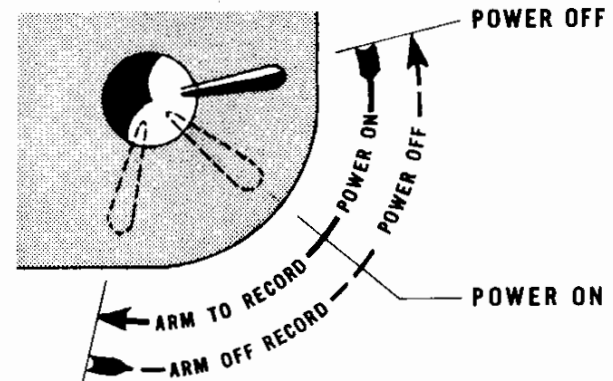

Figure 2 - Phonograph Power Switch
5. Turn the record player control knob (figure 2) until a "click" is felt and allow a few seconds for turntable to
7. When record has finished, turn record player control knob counterclockwise to lift tone arm and continue rotation until phono motor is shut off (refer to figure 2). NOTE: Never turn power off by any other means, as flat spots may be formed on the phono drive wheel.